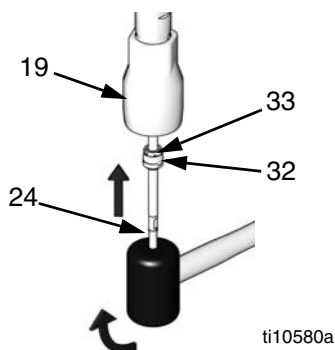

FIG. 24
10. Lubricate priming piston rod (24), then slide assembled intake valve onto rod. Ensure packing nut (33) goes on rod first. Push valve assembly up rod, stopping before it reaches intake valve housing (19). See FIG. 24.
11. Hold valve body (32) steady with a wrench while using an adjustable wrench to tighten packing nut (33); see the following table for correct torque. Use a rubber mallet on priming piston rod (24), to drive valve assembly up to stop.